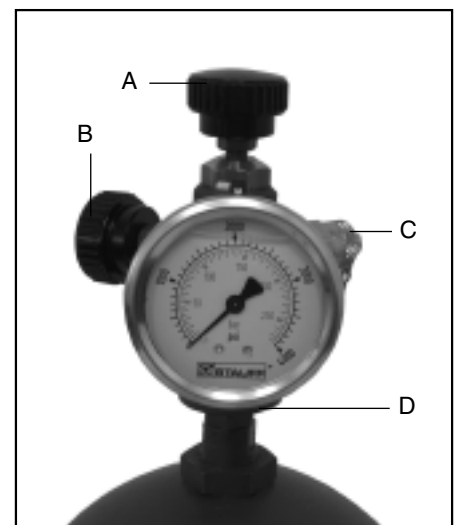

Figure 1.
- Before using the charging assembly (Figure 1.) make sure that valve **A** is completely open (counter-clockwise), that bleed valve **B** (Figure 1.) is closed and that the non-return valve **C** (Figure 1.) is completely closed.
- Connect the charging unit to the gas fill valve on the accumulator by means of knurled cap **D** (Figure 1.).
- Connect the other end of gas hose to the non-return valve **C** (Figure 1.), after taking off it's cap.
- Turn valve **A** (Figure 1.) clockwise to the point where pressure is registered on the gauge.
- (K) Open valve A (Figure 1.) (counter-clockwise) and reduce the pressure to zero by means of bleed valve B (Figure 1.).
- (L) Remove hose from non-return valve C (Figure 1.) and replace cap.
- (M) Close the bleed valve B (Figure 1.) and wait a few minutes for pressure to stabilize.
- (N) Screw valve A (Figure 1.) clockwise until pressure can be read on gauge. This should be slightly higher than the required pressure.
- (O) Adjust pressure by means of bleed valve B (Figure 1.), then remove charging unit.
- (P) Replace gas valve cap and protective guard on accumulator.
- (Q) Accumulator is now ready for use.